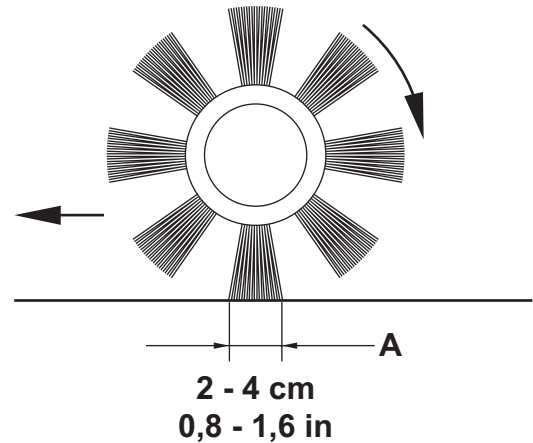

Figure 6
- Check that the main broom print (A, Fig. 6), along its length, is 0.8 to 1.6 in (2 to 4 cm) wide.
*If it is not possible to adjust the print (A, Fig. 6) properly, because the pressure on the floor at the ends of the broom is different, refer to the Service Manual.*